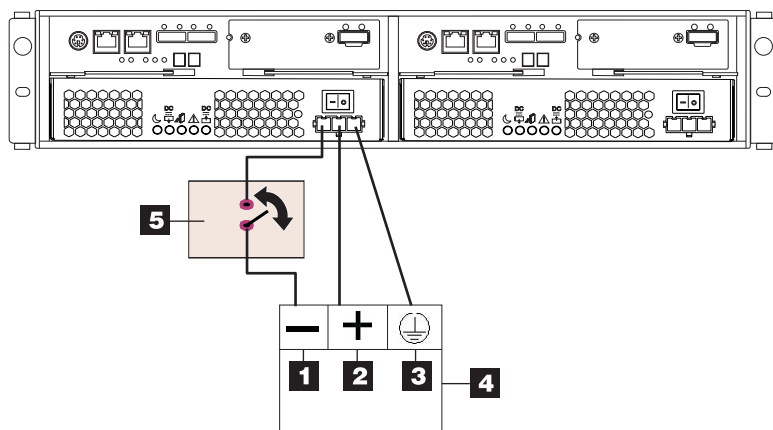

Figure 3-59. DC wiring from DS3500 to disconnect device and dc power source
5. Complete the wiring from the disconnect device to the terminal marked -48V of the Reliably grounded safety extra low voltage (SELV) dc power source. Connect the POS RTN wire (blue) and the ground wire (green/yellow) of the dc power cable to the terminals marked POS RTN and GND on the dc power source, as shown in Figure 3-59.